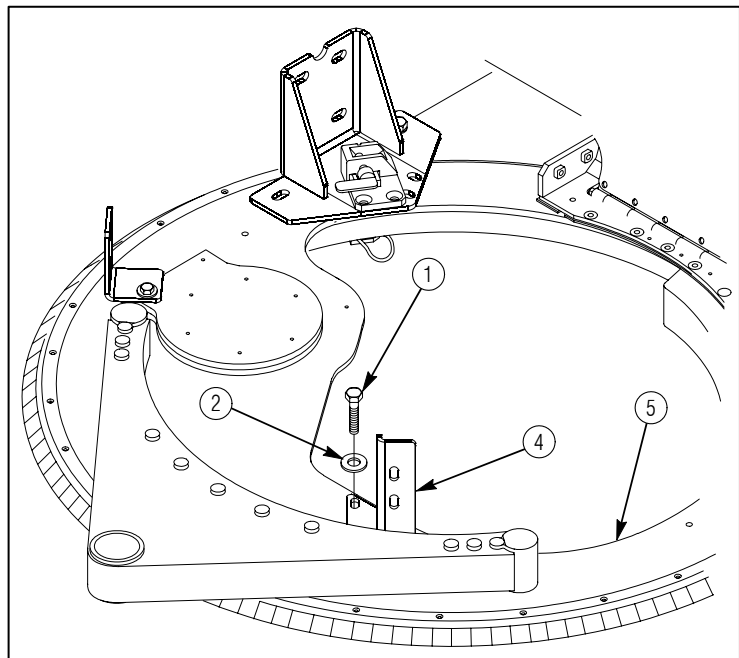

Figure 11
11. Apply sealing compound to threads of 92629A632 hex bolt (1).
12. For M1114 only, attach 13014380 left front bracket (4) and combat hatch lock to turret (5) using 92629A632 hex bolt (1), MS27183-14 washers (2) as shown in figure 11. Do not tighten hex bolt at this time.